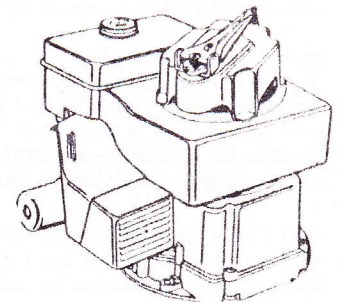

FIG. 5
If the studs are too short to extend through the impulse starter casting it will be necessary to drill the holes oversize with a 5/16" drill so the four (4) barrel nuts (Part No. 5997) and lock washers (Part No. 5998), included in the kit, can be used to hold the new starter in position (Fig. 5).